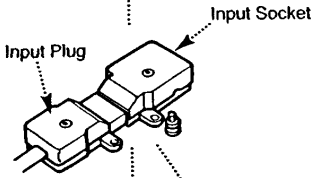

Fig. 21
2. Disengage the lugs on the socket from their slots (Fig. 21). Pull the mains input plug from the inlet socket (Fig. 22).